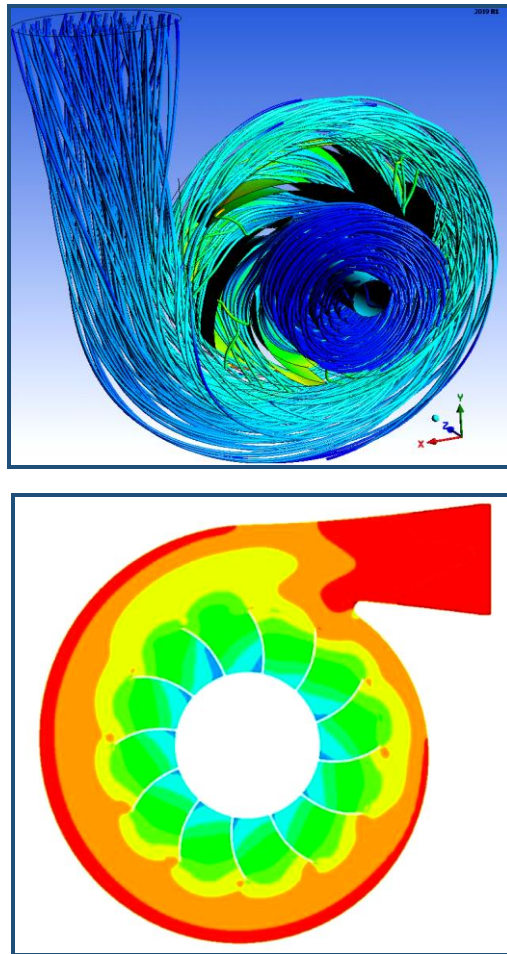

Figure 13.1: Velocity streamlines and pressure contour through centrifugal pump
8. Analyze the results using the Ansys CFD post to get the contour as shown in Figure 13.1.